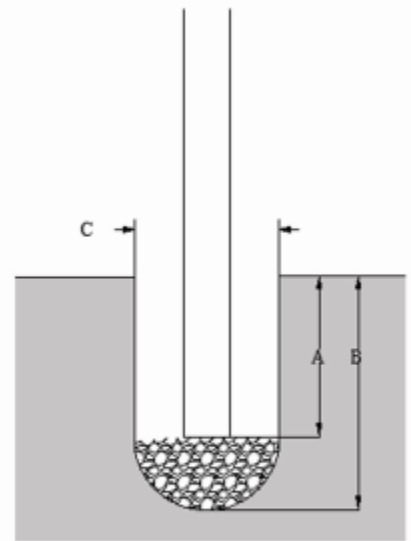

Fig. 4 Post Hole Dimensions
- Dig or auger post holes based on the dimensions in chart below. Ensure the bottom of the post is set at exactly 24" below grade for the Ranch Rail style. (**Fig.4**).